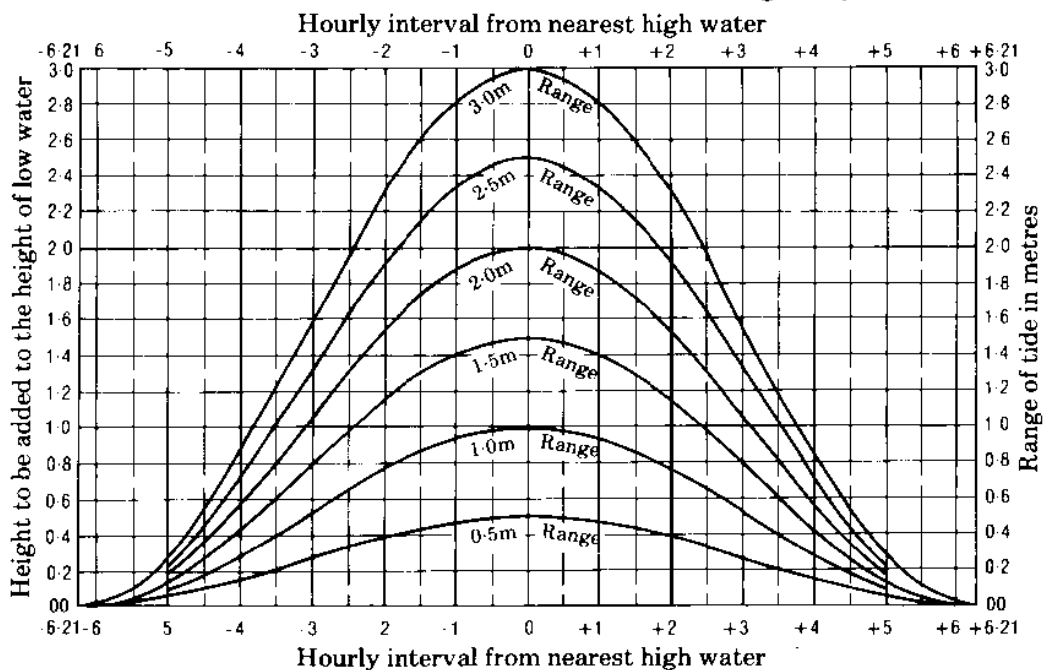

Figure 79.3. Tidal planes for non-standard ports (Illustration courtesy Queensland Transport)
- In Figure 79.3, find the range which most suits your area. Find the hourly interval on the X axis and read up till you find the range you calculated. You may have to approximate the graph.